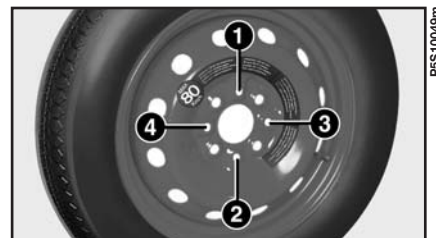

fig. 6
16) Tighten up the wheel bolts completely in criss-cross fashion following the order shown in fig. 6.